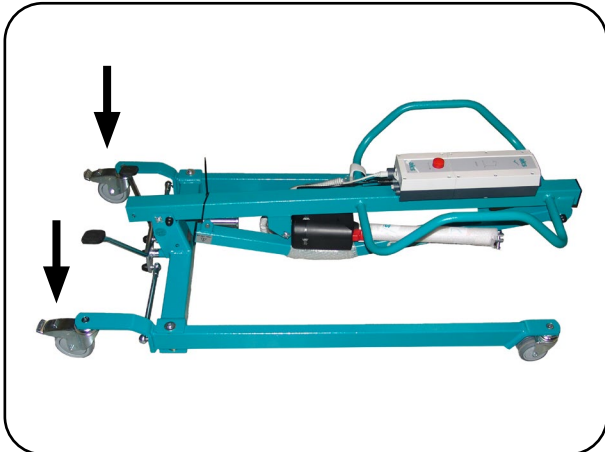

Fig. 6.2.01 - Chassis
2. Place the chassis with the castors on the floor (Fig. 6.2.01).
3. Brake the two rear castors on the operator side by activating the foot lever (Fig. 6.2.01); see chapter on Operation, section **Castors**.
15. Release the brakes on the two rear castors on the operator side by activating the foot lever (Fig. 6.2.01); see chapter on Operation, section **Castors**.